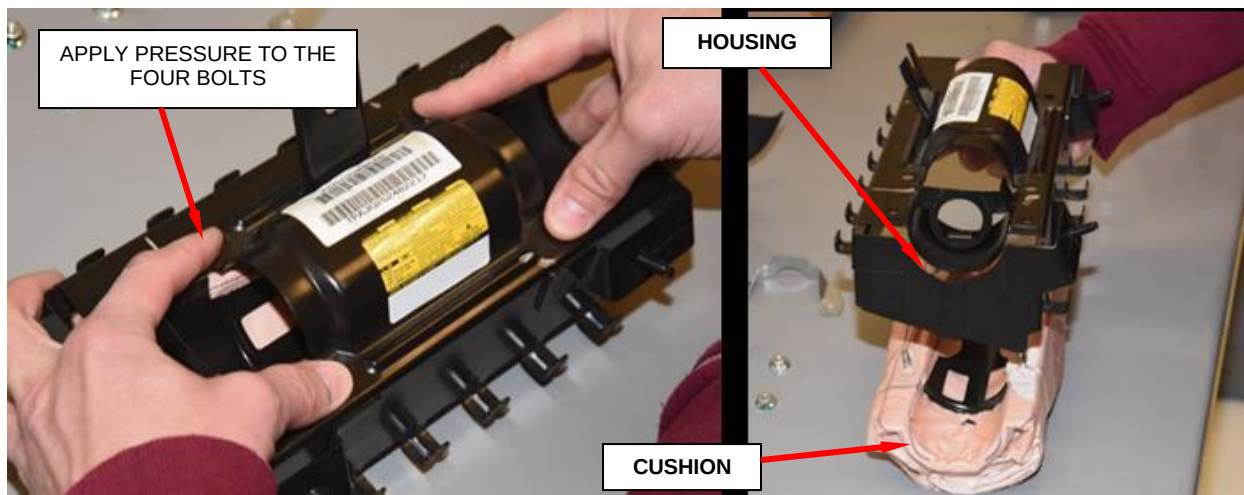

Figure 176 – Remove Airbag Cushion from Housing
- f. Remove airbag cushion from housing by applying pressure to the bolts, set cushion aside (Figure 176).